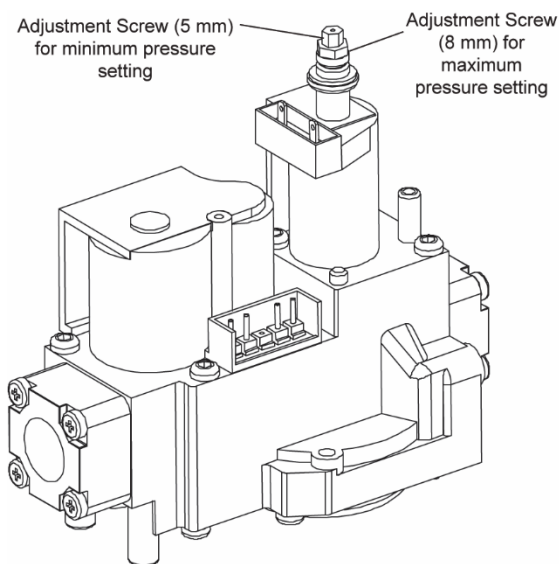

**Figure 21. Gas Burner Assembly**
Inlet, regulated, and pilot gas pressure readings can be taken using a digital tube manometer at the tap location shown in Figure 21. Figure 21 shows the burner assembly and Figure 23 shows the gas valve.
2. Connect a digital pressure manometer to the gas manifold (Figure 21) to measure burner pressure (measuring point must be as near to burner as possible).